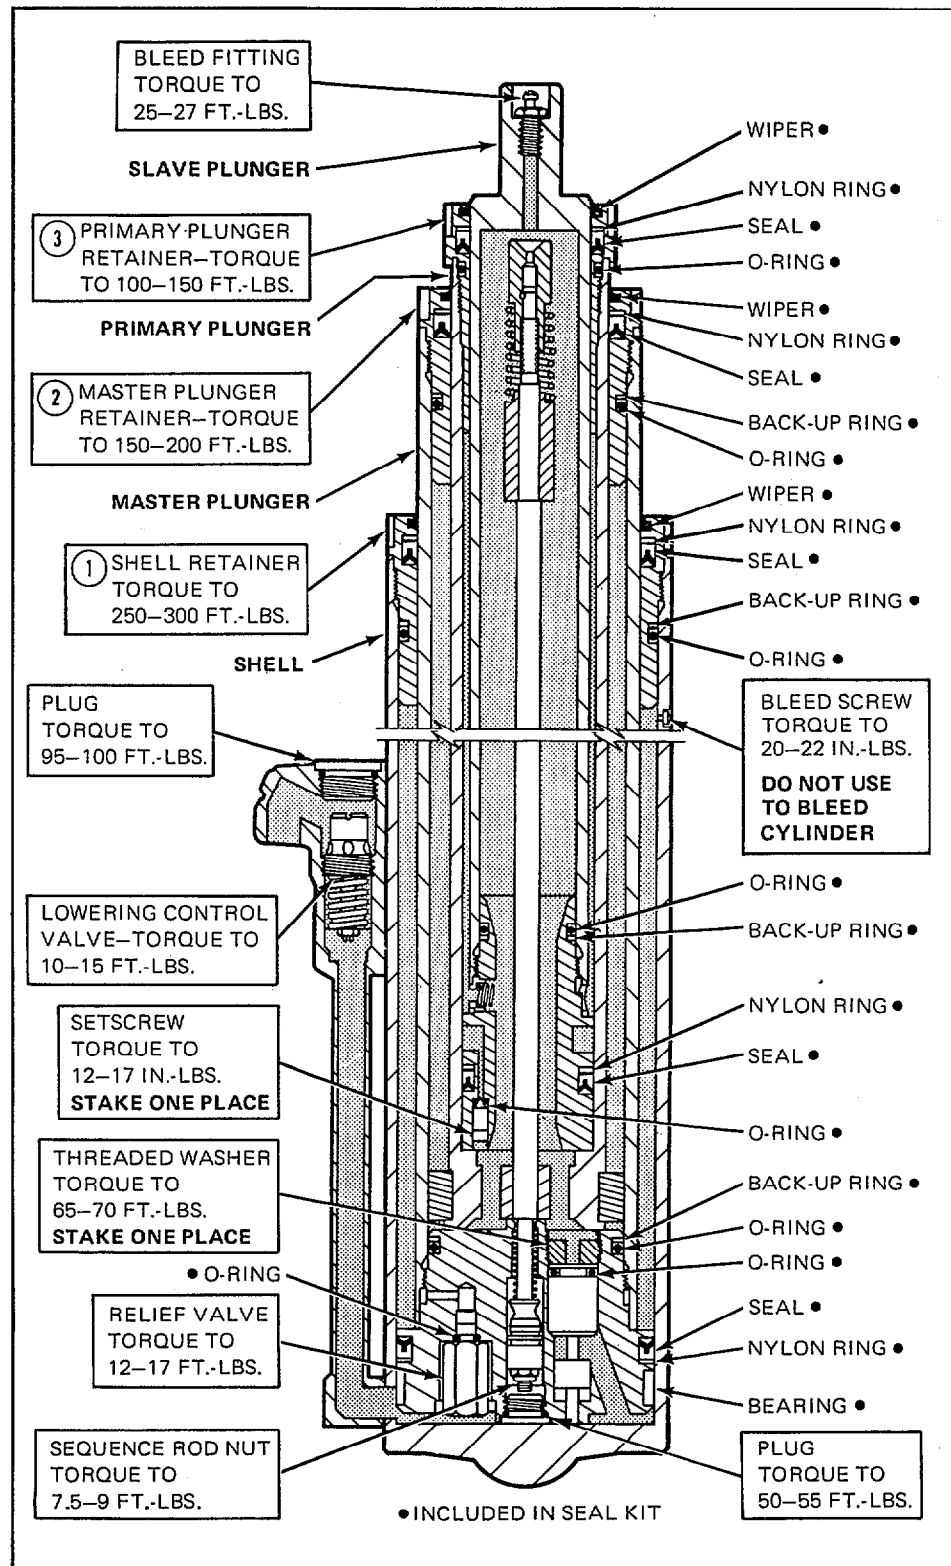

Figure 9. Hoist Cylinder Components
7. Wash the cylinder assembly with solvent to remove any foreign material on the shell. Especially clean around the plunger retainers. Blow dry with compressed air. **If you are going to replace the seals, O-rings, and/or wipers in the plunger retainers only, you can do so with the cylinder in place on the mast according to the following procedures (refer to Figure 9).**
- b. Replace the seals, O-rings, and/or wipers in the retainers as required. Carefully note their positions (see Figure 9). Avoid excessive stretching of the O-ring on the large diameter retainer.
- c. Install the retainers as described in section 5.1-6, steps 17, 18, and 21. Torque all retainers as shown in Figure 9.
1. Use a claw type spanner wrench to remove the cylinder shell retainer. (item 1, Figure 9).
5. Remove the two remaining retainers (items 2 and 3, Figure 9) with a claw type spanner wrench. Pull the master, primary, and slave plungers apart.
12. Lubricate the new seal kit with STP and install the seals according to Figure 9.